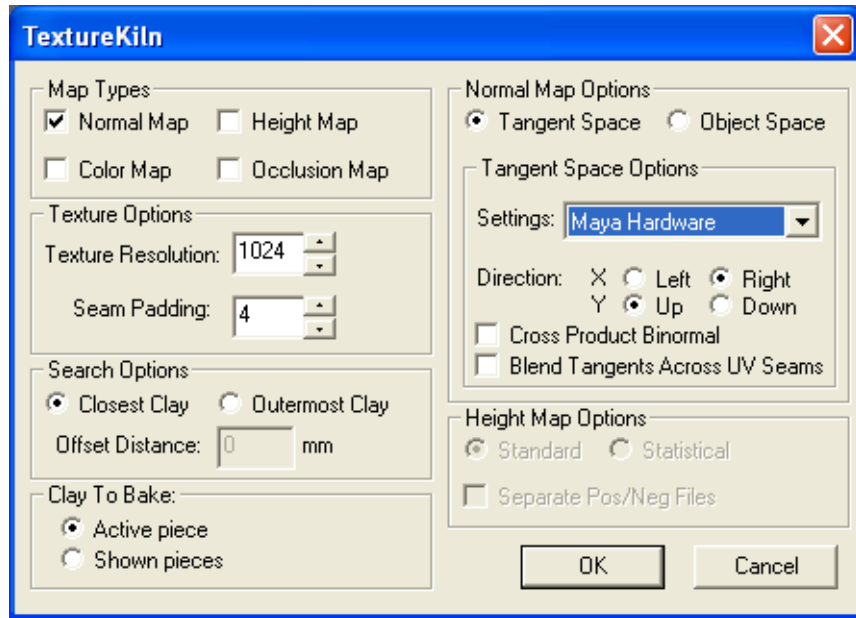

FIGURE 2-26. TextureKiln settings
- 2 In the TextureKiln Options dialog, set the following (see Figure 2-26):